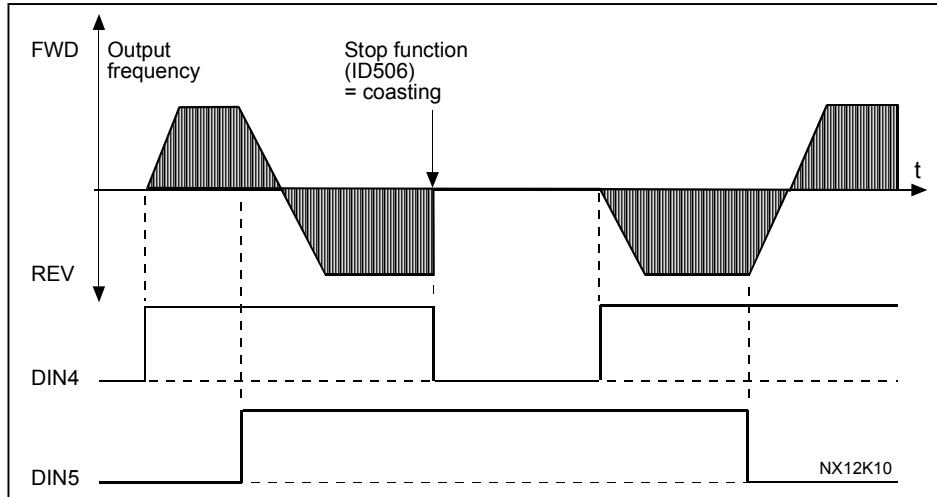

Figure 8-31. Start, Stop, Reverse
- ① The first selected direction has the highest priority.
- ② When the DIN4 contact opens the direction of rotation starts the change.
- ③ If Start forward (DIN4) and Start reverse (DIN5) signals are active simultaneously the Start forward signal (DIN4) has priority.
- See Figure 8-31.